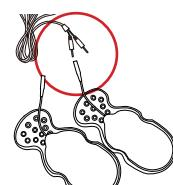

Fig 7
4. Gently increase intensity setting by holding down the button “”. Or decrease intensity setting by holding down the button “”. The intensity level is adjustable between 0 and 40. (See Figure 7). In order to let the user feel the stimulation gradually increase the intensity to a comfortable level by holding down the “” intensity button. Those who suffer with poor circulation may not feel anything until reaching a higher level of intensity. There are 40 output levels. When you reach your desired intensity level release the button, the icon will blink. To stop the blinking and maintain the intensity press the “” button 5 times.
2. Connect pin of the cable to the gel pad. (See Figure 7).